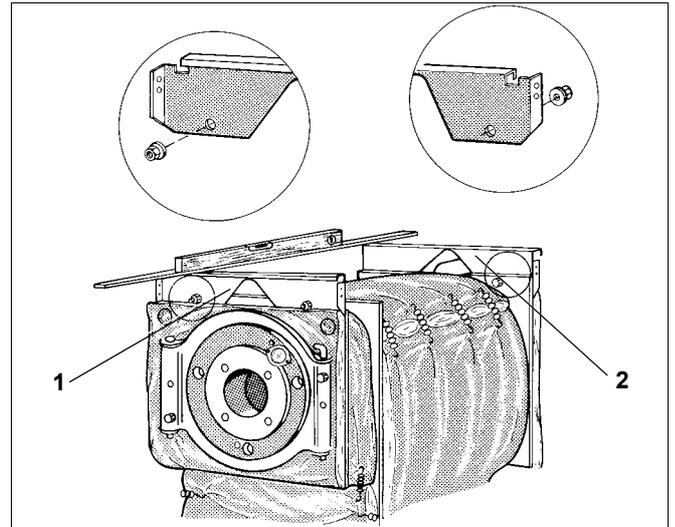

Fig. 7 Install the front and rear support brackets
- Locate the front support bracket (Fig. 7, **item 1**, cut-out facing down) with its two top holes on the threaded studs and secure with nuts.
- Locate the rear support bracket (Fig. 7, **item 2**, cut-out facing down) with its two top holes on the threaded studs and secure with nuts.
Ensure that the angles of the support brackets point outwards. The front and rear support brackets must be horizontally level (Fig. 7).